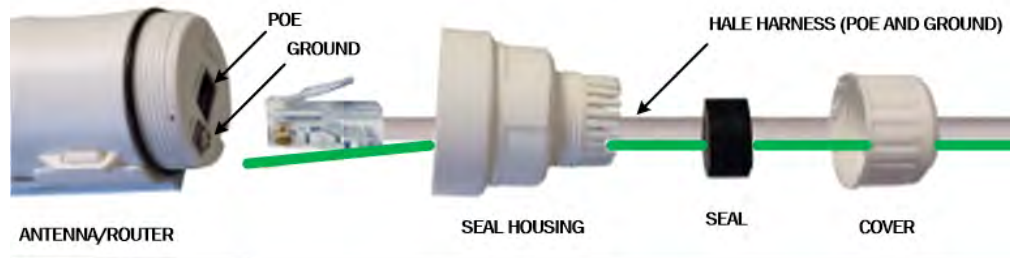

Figure 83. Wi-Fi Router/Antenna Connectors
- C. Remove cover as follows. See Figure 83. (Use the optional slip joint pliers if required to hold/loosen the cover and/or housing.)
- K. Install new antenna support on to both antennas. See Figure 83, page 113.